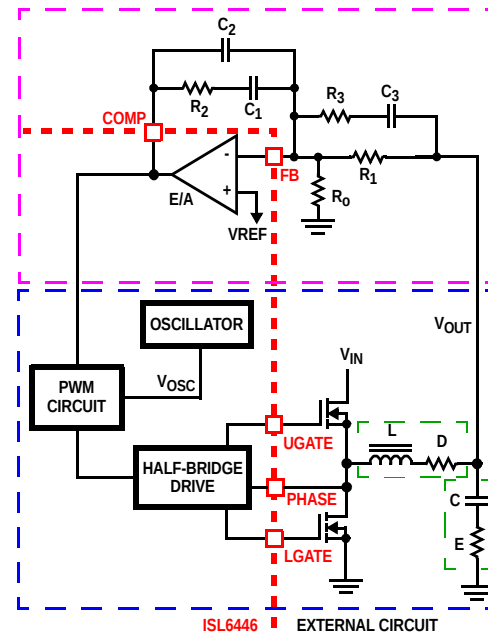

FIGURE 26. VOLTAGE-MODE BUCK CONVERTER COMPENSATION DESIGN
Figure 26 highlights the voltage-mode control loop for a synchronous-rectified buck converter, applicable to the ISL6446 circuit. The output voltage (V_{OUT}) is regulated to the reference voltage, V_{REF} . The error amplifier output (COMP pin voltage) is compared with the oscillator (OSC) modified sawtooth wave to provide a pulse-width modulated wave with an amplitude of V_{IN} at the PHASE node. The PWM wave is smoothed by the output filter (L and C). The output filter capacitor bank's equivalent series resistance is represented by the series resistor E.
The compensation network consists of the error amplifier (internal to the ISL6446) and the external R_1 through R_3 , C_1 through C_3 components. The goal of the compensation network is to provide a closed loop transfer function with high OdB crossing frequency (F_0 ; typically 0.1 to 0.3 of f_{SW}) and adequate phase margin (better than 45°). Phase margin is the difference between the closed loop phase at F_{0dB} and 180° . The equations that follow relate the compensation network's poles, zeros and gain to the components (R_1 , R_2 , R_3 , C_1 , C_2 , and C_3) in Figure 26. Use the following guidelines for locating the poles and zeros of the compensation network:
1. Select a value for R_1 (1k Ω to 5k Ω , typically). Calculate the value for R_2 for desired converter bandwidth (F_0). If setting the output voltage via an offset resistor connected to the FB pin, R_0 in Figure 26, the design procedure can be followed as presented in Equation 13.